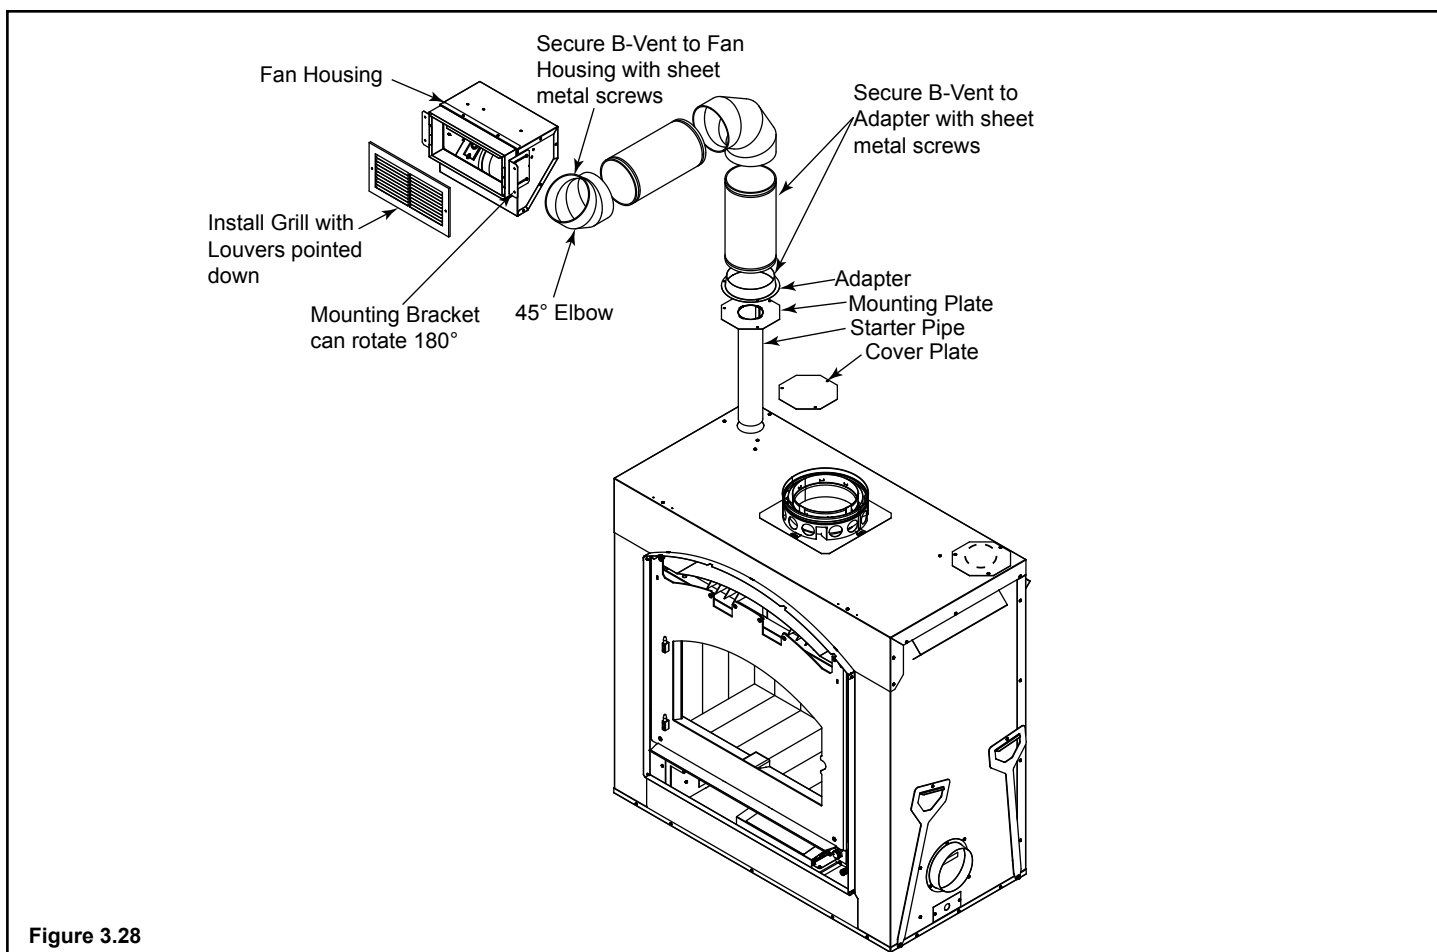

Figure 3.28
- Attach enough 6 in. (152 mm) B-Vent as required for your installation to the fan housing. **A maximum of (4) 90° elbows are allowed.** Screw the B-vent to the adapter. Also screw the B-vent to the outlet box on the fan housing. See Figure 3.28. Support duct at intervals of no greater than 4 ft (1 m) as required by local code.